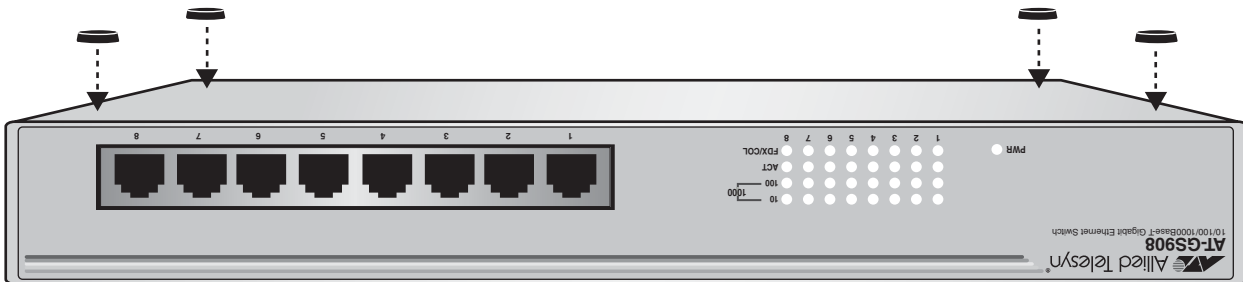

Figure 5 Attaching the Rubber Feet
2. Attach the four rubber feet to the bottom of the switch as shown in Figure 5.